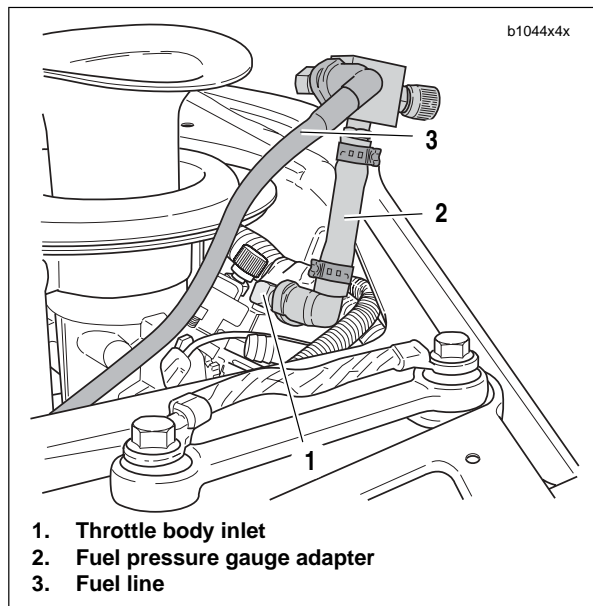

Figure 4-26. Fuel Pressure Gauge Adapter
- See Figure 4-26. Attach FUEL PRESSURE GAUGE ADAPTER (Part No. B-45522) (2) to throttle body inlet (1).
- Connect the fuel line (3) to fuel pressure gauge adapter.